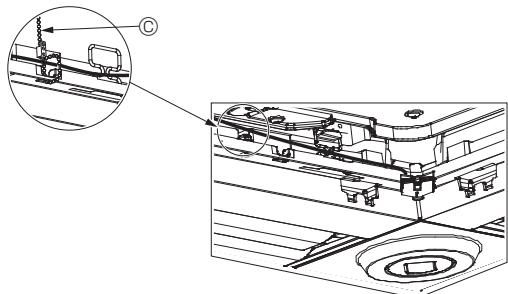
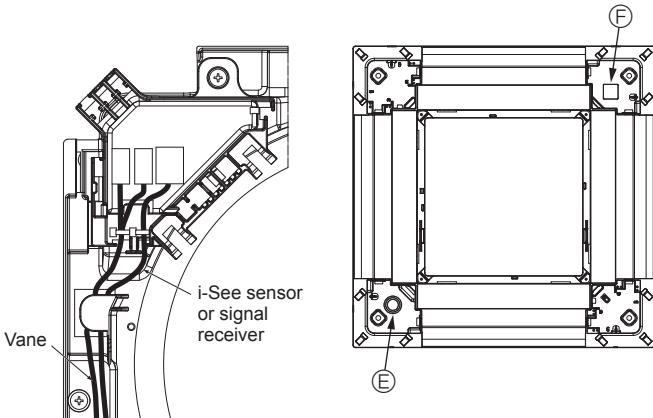

Fig. 10-12
Fig. 10-13
- Secure the i-See sensor and signal receiver wires to the panel with the fastener as shown in the diagram so that there is no slack in the wires, and then cut off the excess end of the fastener. (Fig. 10-12)
- If the position of the i-See sensor was changed from the “○” position (E) to the “□” position (F), change the function settings. (Refer to page 12.)
- Route the i-See sensor and signal receiver wires as shown in Fig. 10-13.